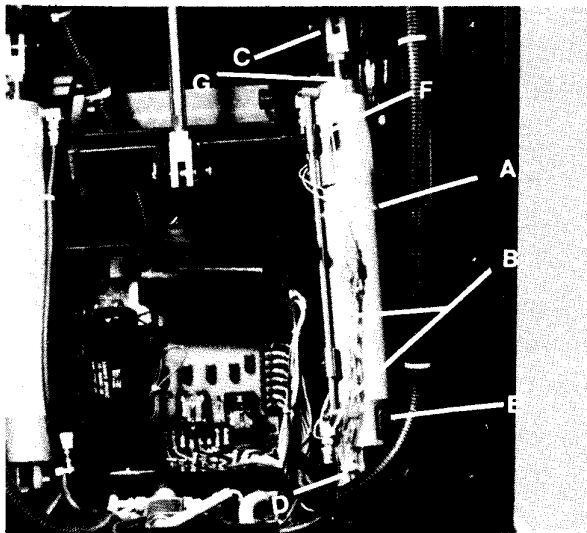

Fig. 28
**WHEN CHANGING A HOSE, NOTE HOW THE WIRES, HOSES, HOSE FITTINGS, AND NYLON TIES ARE POSITIONED SO THAT THEY MAY BE REPLACED EXACTLY THE SAME WAY OR DAMAGE TO THE WIRES AND HOSES MAY OCCUR, RESULTING IN ELECTRICAL SHOCK OR EQUIPMENT DAMAGE. See Fig. 28 & 38.**
- 2) Remove the (1) large nylon tie, Item A, Fig. 28 from the cylinder and the (2) small nylon ties, Item B, Fig. 28 from the wires.
- 3) Remove the cotter pin and clevis pin, Item C, Fig. 28 from the rod end of the cylinder.
- 4) While supporting the cylinder, remove the "E"-ring and slide the clevis pin, Item D, Fig. 28 toward the upright, enabling the cylinder clevis to be removed from the pivot block.
- 5) Remove the solenoid, Item E, Fig. 28 from the cylinder by removing the large nut with a 3/4" wrench and pulling solenoid off of valve stem.
- 6) Remove the (2) hose fittings from the defective cylinder using a 1/2" wrench.
- 9) Install solenoid, Item E, Fig. 28 on new cylinder by placing solenoid on valve stem and securing with the large nut.
- 10) Disconnect the (6) wires to the (3) reed switches, Item F, Fig. 28, on the defective cylinder, by pulling apart the quick-connect wire connectors and connect these (6) wires to the corresponding reed switches on the new cylinder by mating the quick-connector wire connectors, See Wiring Diagram on Page 47.
- 11) Place new cylinder in position and install clevis pin, Item D, Fig. 28 and "E"-ring at the valve end of the cylinder.
- 12) Install the (1) large nylon tie, Item A, Fig. 28 on the cylinder and the (2) small nylon ties, Item B, Fig. 28 on the wires and let the cylinder rest against the motor cover.
- 14) Attach the new cylinder to the back section by aligning the rod clevis and installing the clevis pin, Item C, Fig. 28 and the cotter pin, placing a thrust washer next to and on each side of the clevis.
The cylinders can be synchronized by adjusting the rod clevis on the cylinder whose rod extends farther. To adjust the clevis, loosen the jam nut and turn the cylinder rod into the clevis by using a 1/2" open end wrench on the wrenching flats, Item G, Fig. 28. After adjusting the clevis, lock the clevis in place with the jam nut.